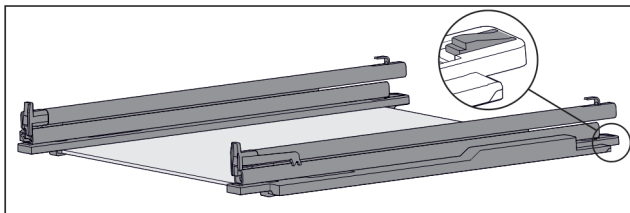

Fig. 44 Glass shelf with rails and retaining parts
- ▶ Press down retaining part at the rear (see Fig. 44) and simultaneously push rail back.